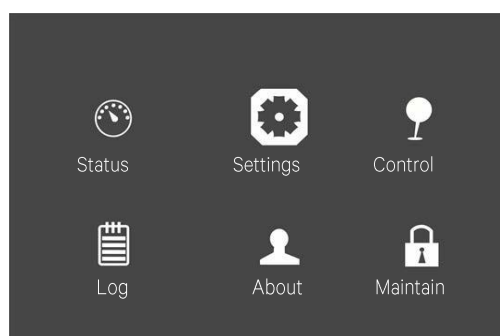

Figure 5-14 Main menu screen
1. On the main menu screen, press the or key to switch the cursor to select 'Settings', then press the key to confirm it. See Figure 5-14.